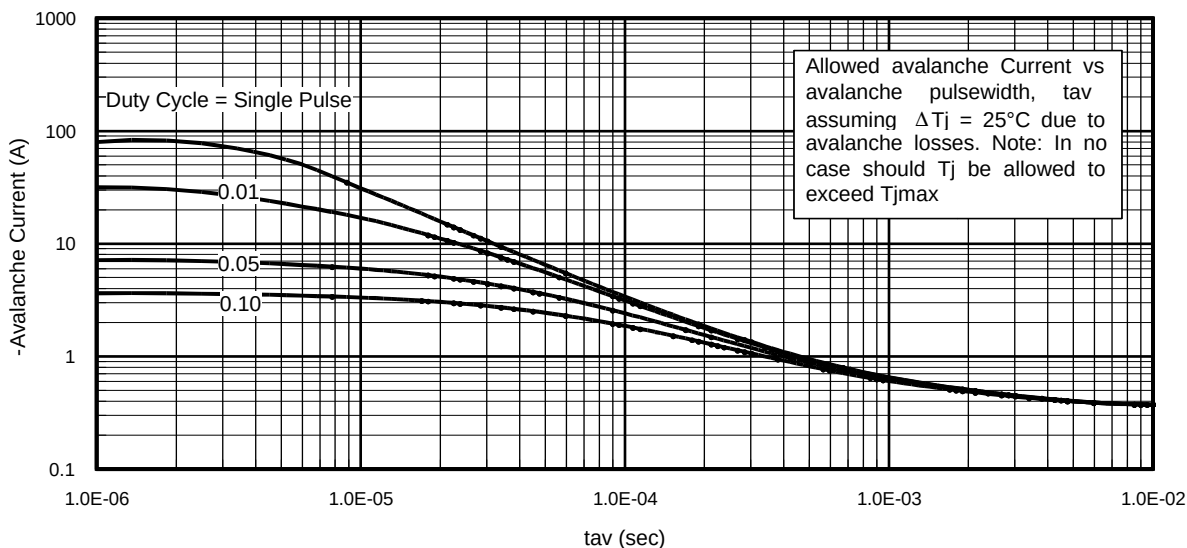

Fig 14. Typical Avalanche Current Vs. Pulsewidth
Notes on Repetitive Avalanche Curves , Figures 14, 15: (For further info, see AN-1005 at www.irf.com)
7. ΔT = Allowable rise in junction temperature, not to exceed T_{jmax} (assumed as 25°C in Figure 14, 15).